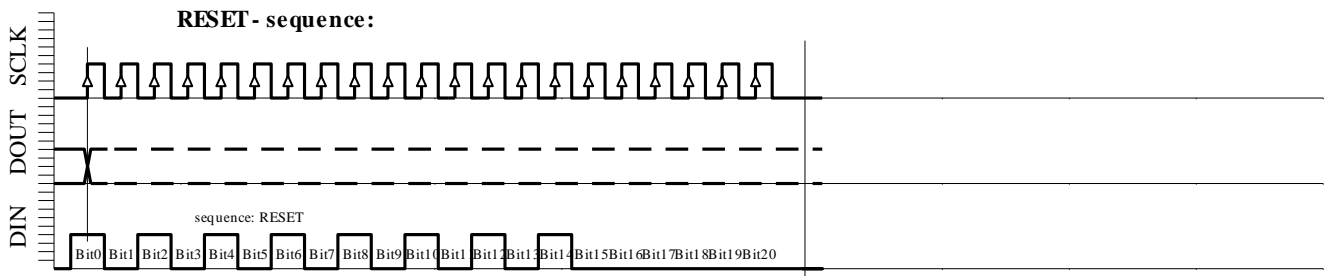

Fig. 6e: RESET sequence (21 bit)
- ◆ RESET sequence (Figure 6e)
The RESET sequence is special as the module in any state recognizes its unique pattern. By consequence, it can be used to restart if synchronization between the microcontroller and the MS5541-30C has been lost. This sequence is 21-bit long. The DOUT signal might change during that sequence (see Fig. 6e). It is recommended to send the RESET sequence before each CONVERSION sequence to avoid hanging up the protocol permanently in case of electrical interference.